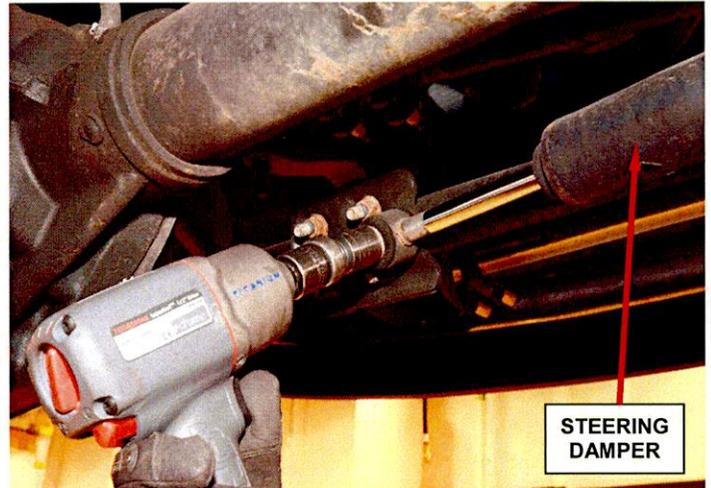

Figure 3 – Steering Damper Nut
3. Remove and discard the steering damper nut (Figure 3)